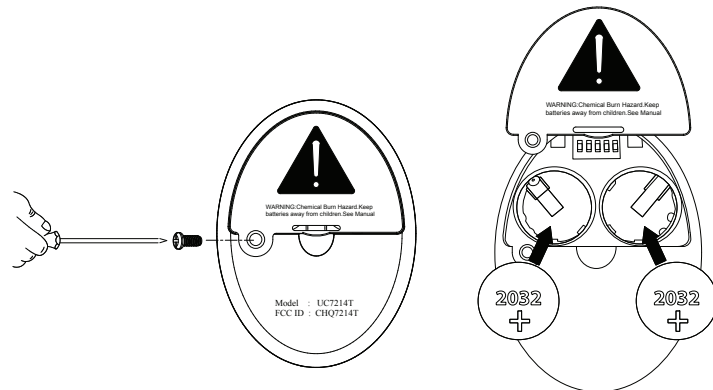
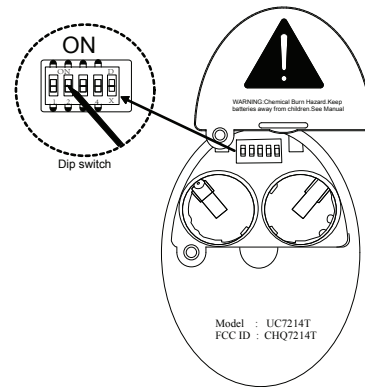

Fig. 21
Fig. 22
Open the back of the transmitter by loosening the screw (figure 21). The frequency selector is a “dip switch block” inside the battery compartment of the transmitter (see figure 22). You change frequencies by arranging the small switches numbered 1 through 4 in a up or down position. 16 Possible frequencies or combinations are possible. The fifth switch, marked D and X sets the system for operation with incandescent or fluorescent lamps. It is essential to set this switch correctly. If your ceiling fan is equipped with incandescent lamps set this switch to the D position, for fluorescent lamps, set the switch to the X position. If these settings are reversed, the lighting control system will operate erratically and could damage your ceiling fan.
2. Insert both batteries and make sure they are seated correctly in each recess with the positive + sign facing up. Replace the battery cover. (Figure 21)